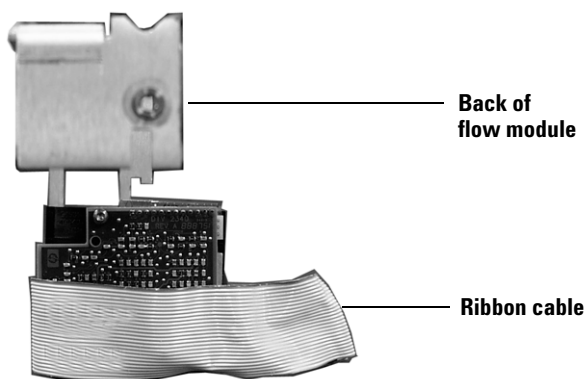
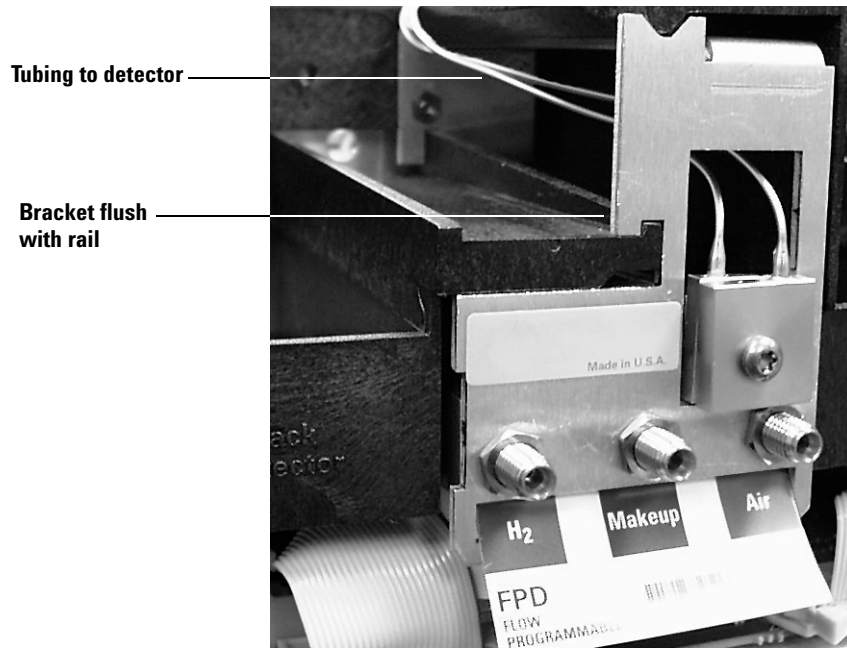

Figure 4 Ribbon cable goes behind the flow module
Figure 5 Flow module installed
- 3 Route the ribbon cable behind the flow module assembly as shown in Figure 4. Then slide the flow module and bracket assembly into the slot until the bracket seats flush against the end of the rails (see Figure 5).